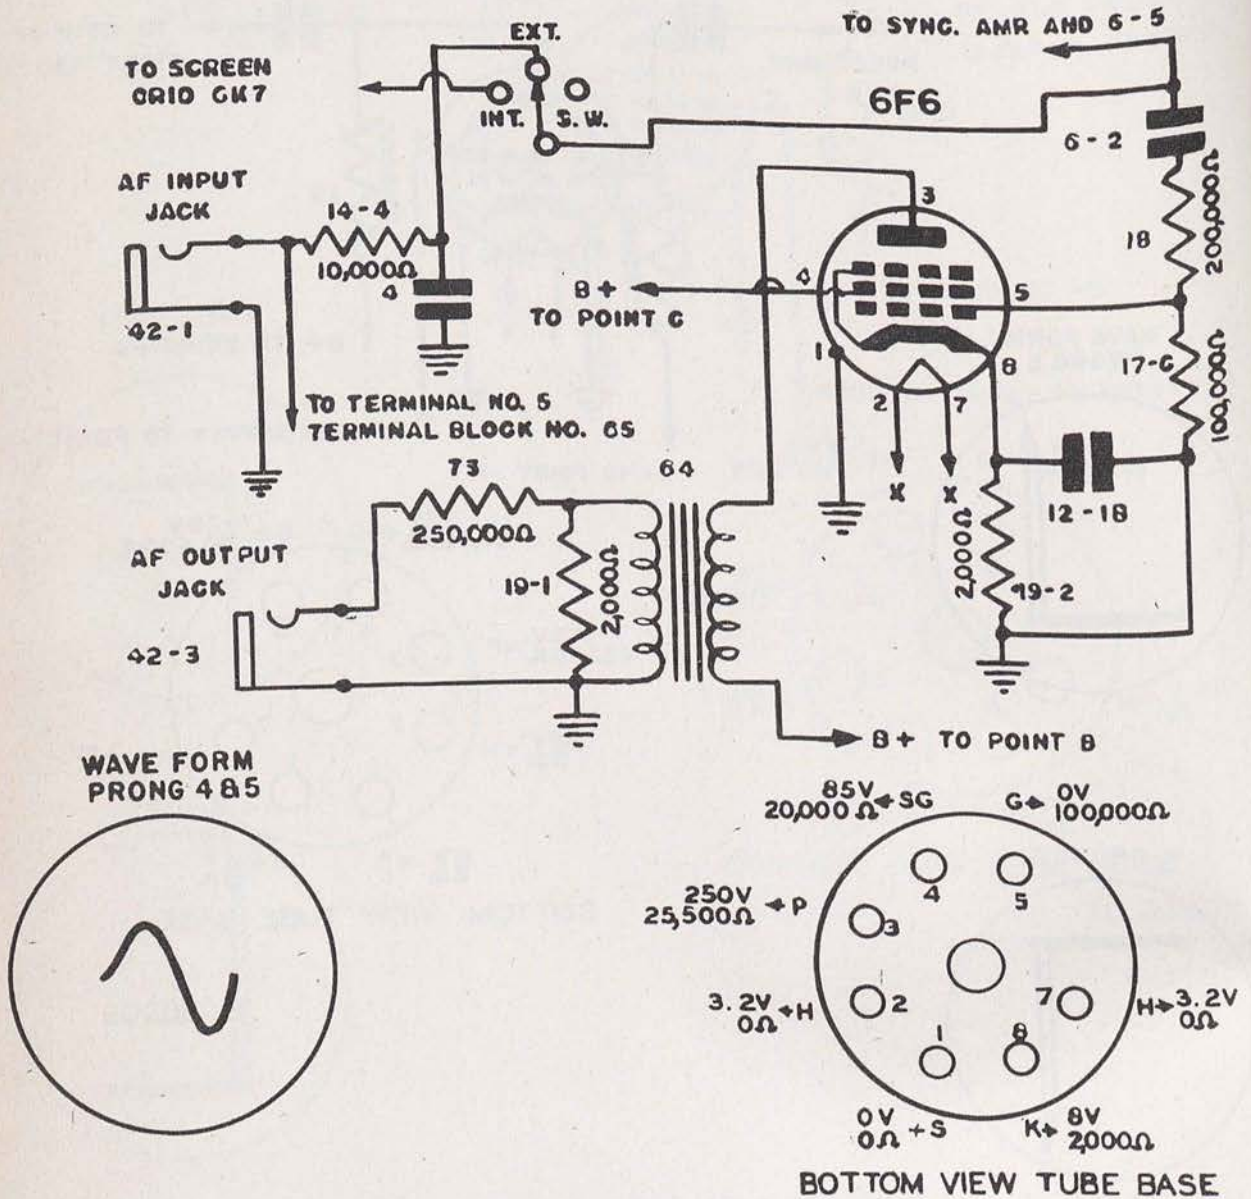

Figure 54. Keyer BC-758-A, sync. sine-wave output stage.
i. TESTING 6L6 SYNC. SINE-WAVE OUTPUT STAGE (fig. 54).